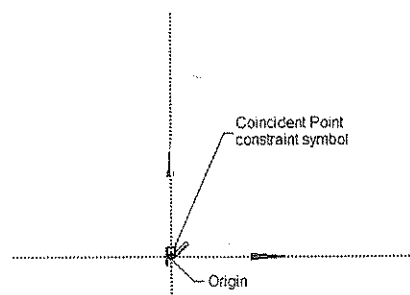

Figure 4-3 Specifying the origin as the start point of the line
7. Move the cursor near the origin in the **Graphics** window and click once the symbol of Coincident Point constraint (P) is displayed attached to the cursor; refer to Figure 4-3.